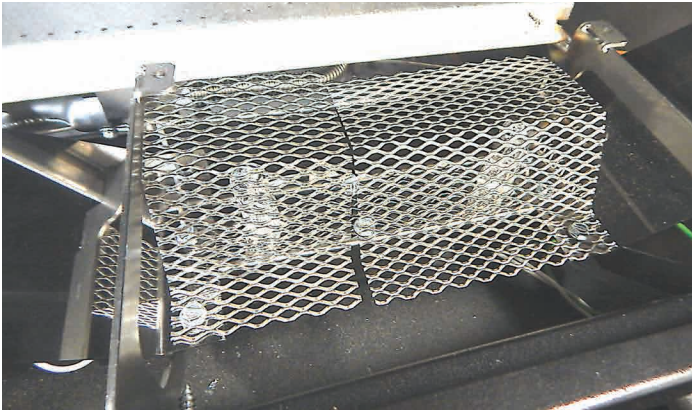

Figure 15
18. When installing in the DVLL36BP fireplace, add (1) Small Diffuser Screen and (1) Large Diffuser Screen over the two outer Bulbs as shown by **Figure 15**. Use (1) # 8 x 1/4" Screw to secure each Diffuser screen. Check to make sure the screens are not resting on the bulbs.